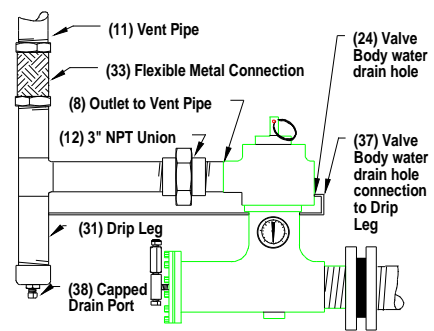

Figure 2.
(see Figure 2 on page 8)
4. It is recommended that you utilize a flexible metal connection (33) to make the installation easier. You must use a 3" NPT union (12) for future servicing.
5. The installer shall determine the best way to plumb the exhaust vent line using the hook-up to vent pipe illustration in Figure 2 as a guide.
6. Apply thread sealant compound to threads on the valve's 3" carbon fragment collection trap inlet (13) and install (see **Caution** below.) This should be screwed DIRECTLY into the existing rupture disk flange whenever possible. In no event should the valve be installed with an extension pipe more than 14 inches from the rupture disk. (See Appendix "C" on Page 17 for illustrations if extension must be used.) **IF AN EXTENSION PIPE IS USED, IT MUST BE STRAIGHT (NO 45° or 90° ELBOWS)** and have a 3" inside diameter. [If the valve is not vertical after tightening into the rupture disk flange, it may be necessary to install a 3" pipe union between the valve and the outer rupture disk flange.]
- Determine best method for connecting drip leg (31) to the “outlet to the vent pipe” (8) (see figure 2 on page 8). Again, the “outlet to vent pipe” (8) can be adjusted to point in any horizontal direction by loosening the 5 valve body locking screws (9) and turning the valve body (7) (see first row of Appendix “C” on page 16 for illustration). Run a ¼” line (37) from the Valve Body water drain hole (24) to the Drip Leg (31). (Don’t forget to re-tighten the 5 valve body locking screws (9).)
1. **BEFORE SERVICING THE VALVE**, utilize pull ring (25) to pull up and insert a pin in the spring tension bar (26) in the 2nd hole (17). This will protect the seating O-Ring (1) from damage and keep the valve body (7) from popping up during servicing.
2. After pinning the spring tension bar (26) per previous step, break vent pipe union (12) (see Figure 2 on page 8).
3. Next, loosen the five (5) valve body locking screws (9), then lift the valve body (7) from the valve neck (32) .
4. Inspect the valve seat O-Ring (1) and the valve body O-Ring (2). If there are signs of wear or excessive compression set, replace the O-Rings. Lightly oil the valve seat O-Ring to facilitate installation into the dove-tail O-Ring grove.